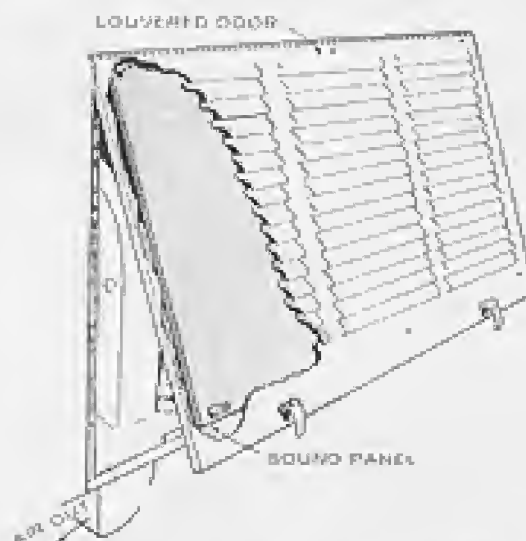

FIGURE 4 TYPICAL LOUVERED DOOR AIR INLET
Sheet metal with louvers can be used over inlet areas. However, some provide only 60 percent free inlet area per square foot. Even the most efficient grille only provides about 90 percent free inlet area per square foot. The free inlet area of the material can be obtained from the manufacturer. Calculate the inlet area needed using the following information as a guide. See Figure 4.
4. To prevent line of sight noise, a sound panel (baffle) may be added behind louvered air inlet. The panel must be spaced to allow for minimum free air inlet of 85 square inches. See Figure 4.